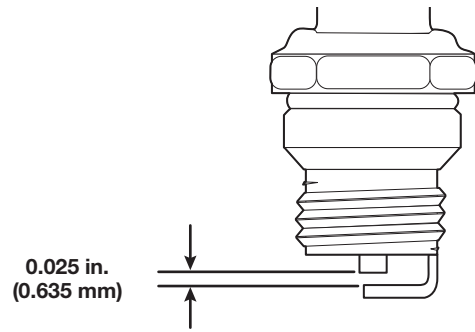

Fig. 17
4. Use a feeler gauge to set the air gap at **0.025 in. (0.635 mm)** (Fig. 17).